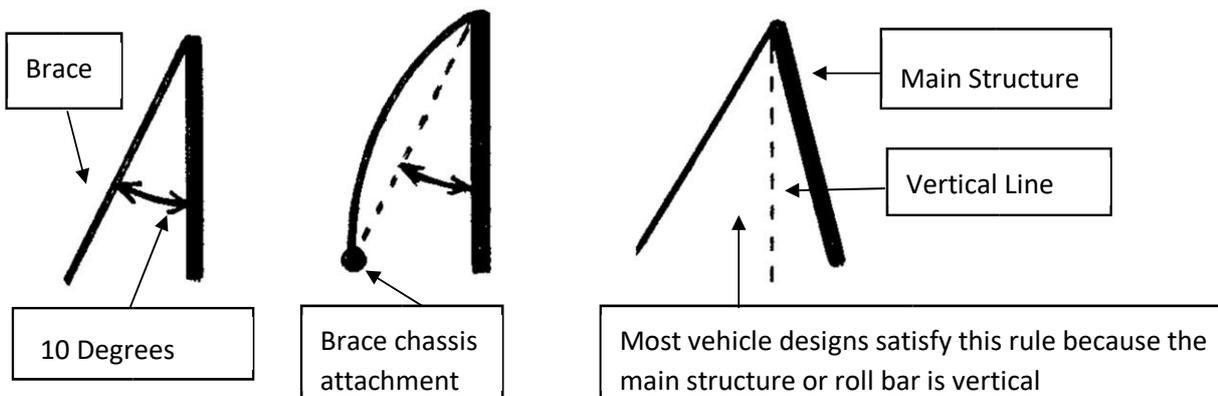

Figure 4, Rollover protection structure bracing
- 2) Form a minimum angle of 10 degrees to the brace and this angle must include the vertical line through the highest point (**figure 4**).